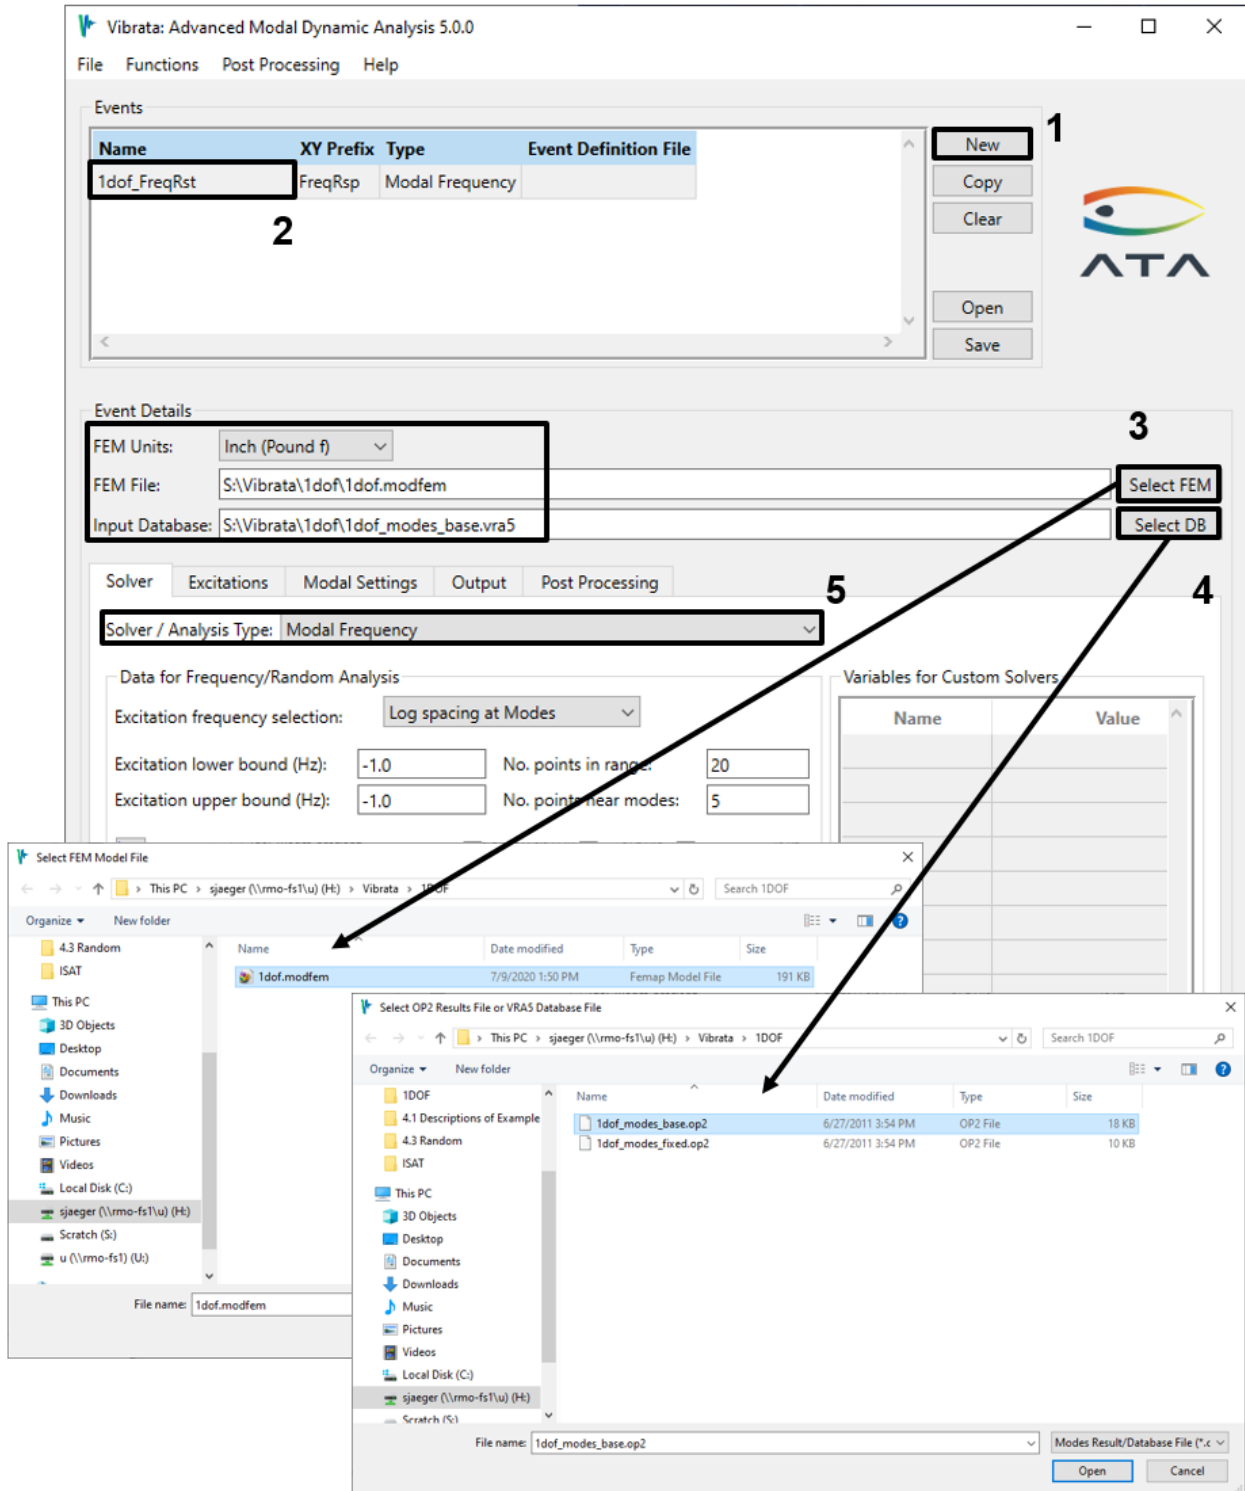

Figure 4-9. Create a new frequency response event and select the FEM on which to base it.
2. Start Vibrata and create a new modal frequency event using that modfem file (Figure 4-9) and select the OP2 named “1dof_modes_base.op2” for the results. You can assign an XY Prefix here, or you will be asked for one when you solve.